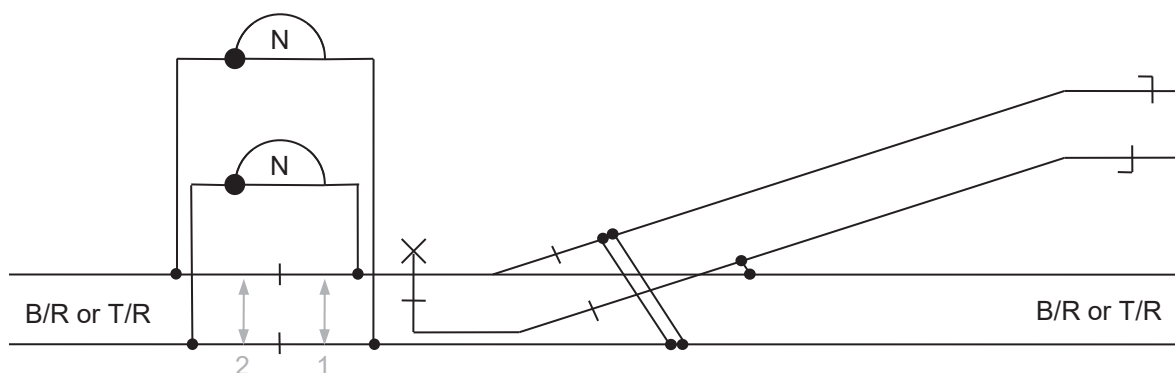

Figure 1: Switch Circuit Controller: Break (Two Directions)
4. Check Initial State	<ul style="list-style-type: none"> Switch the multi-meter to a low voltage range. Connect meter between rails at location 1 as indicated in Figure 1, with the proper polarity. → Check meter indicates normal track voltage. Connect 0.06 ohm shunt at location 2 as indicated in Figure 1. → Check the meter indicates a voltage drop due to shunt.
6. Relocate Meter	<ul style="list-style-type: none"> Connect the multi-meter between rails at location 2 as indicated in Figure 1, with proper polarity. → Check the meter indicates a voltage drop close to step 4 due to the shunt. Remove 0.06 ohm shunt.